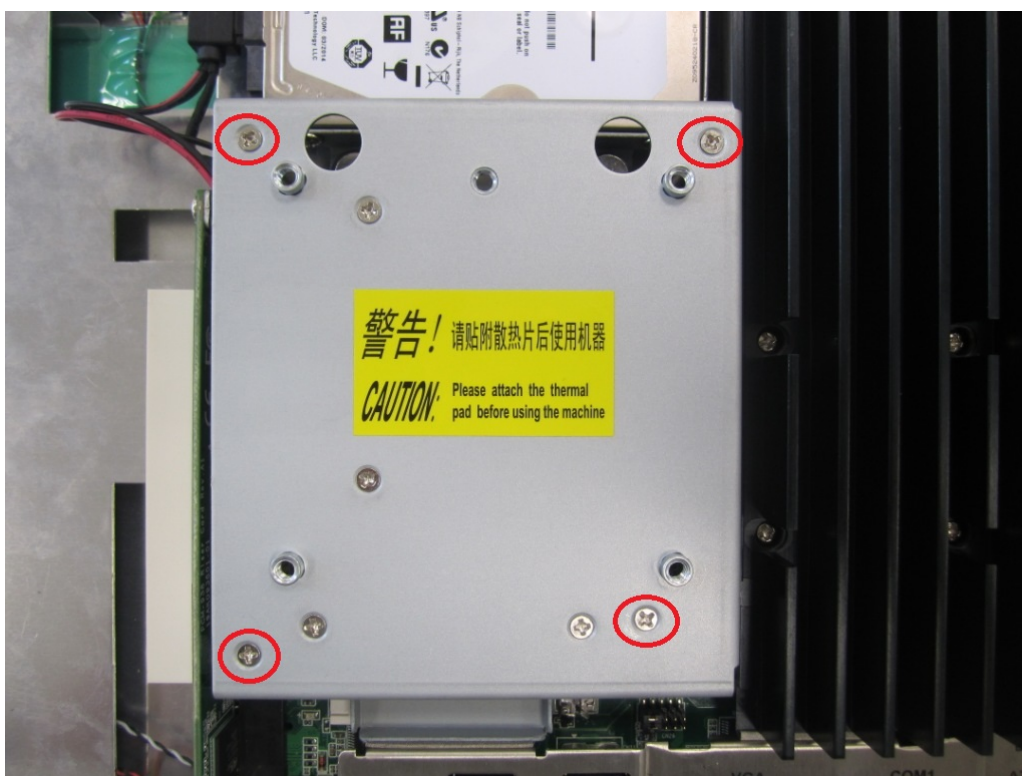

Figure 2.36
2. Remove the four screws (circled in red) on the VESA mount plate (see Fig. 2.36).